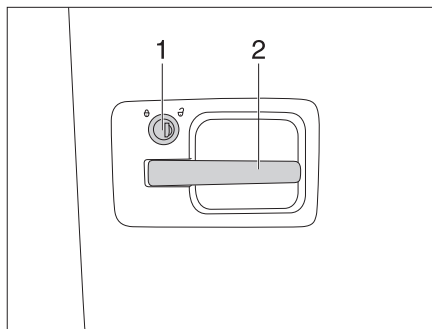
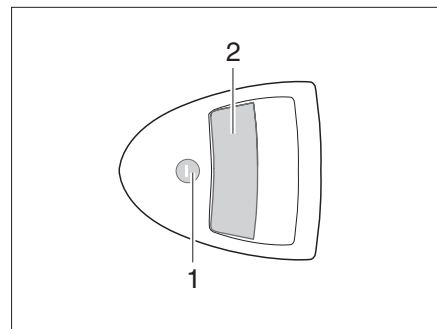

Fig. 20 Door lock, outside
Fig. 21 Door lock, outside
- Insert the key in the locking cylinder (Fig. 20,1 and Fig. 21,1) and turn clockwise until the door lock is unlatched.
- Pull on the handle (Fig. 20,2 and Fig. 21,2). The door is open.
- Insert the key in the locking cylinder (Fig. 20,1 and Fig. 21,1) and turn it anti-clockwise until the door lock is engaged.